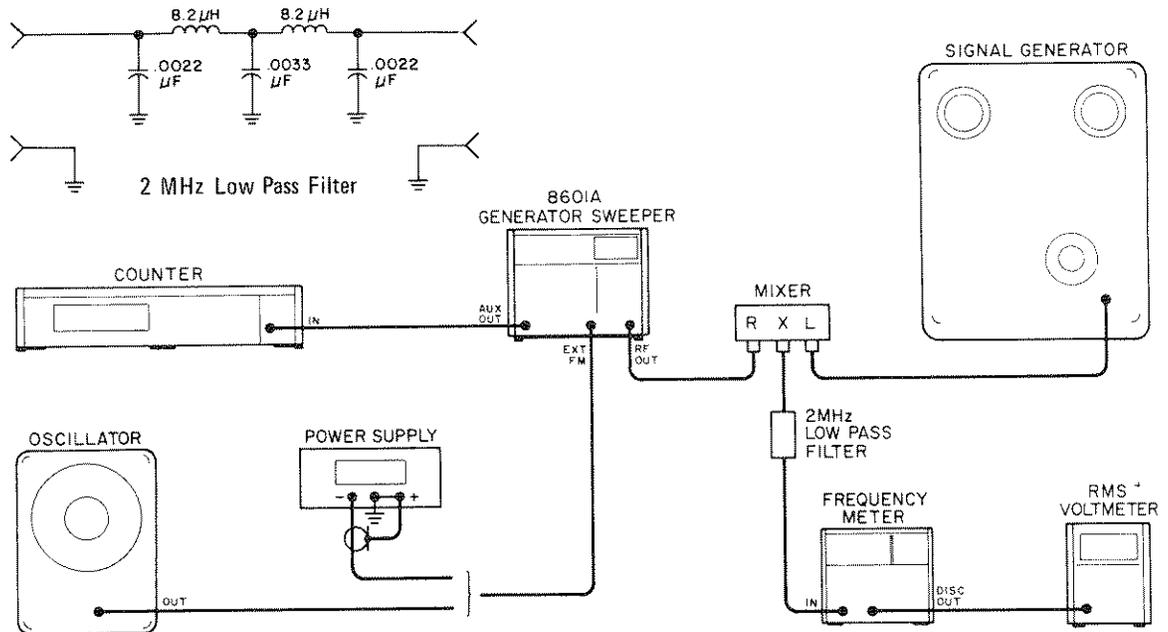

Figure 4-5. External FM Test Setup
1. Connect dc power supply to 8601A as shown in Figure 4-5. Connect counter to RF OUT.
10. Connect equipment as shown in Figure 4-5. Set 8601A RANGE to 110, FREQUENCY to 60 MHz and adjust Signal Generator for 61.0 MHz at a level of about  $-10$  dBm.
1. Setup equipment as shown in Figure 4-5. Audio Oscillator, DC Power Supply and Counter/Marker Generator are not needed.